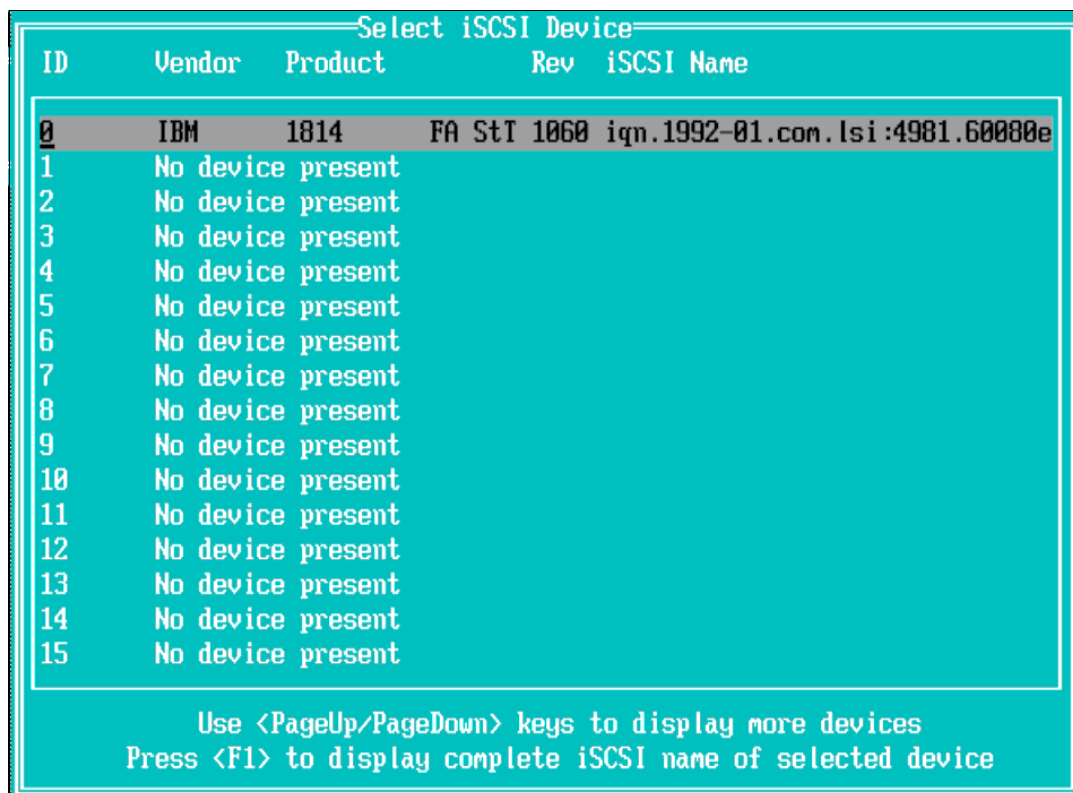
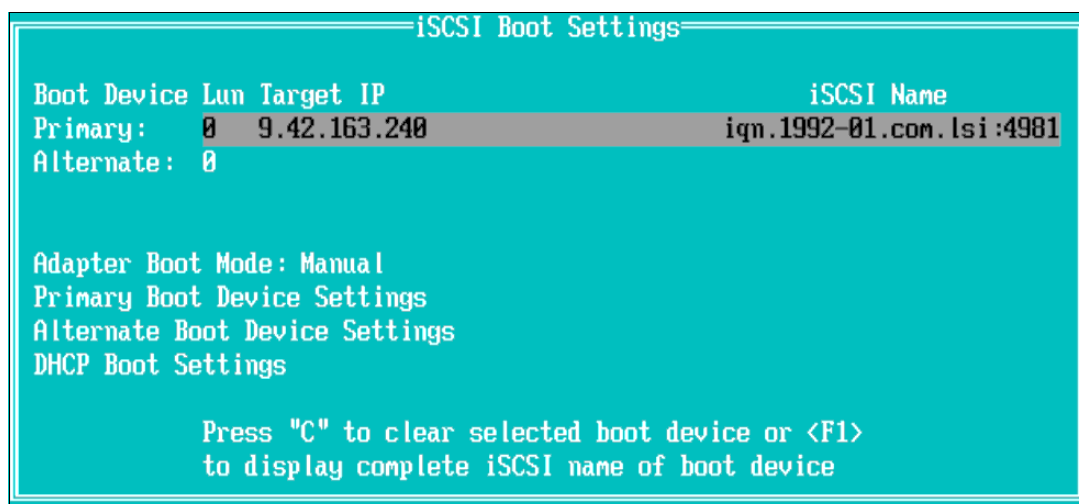

Figure 6-41 Select Boot LUN
Figure 6-42 Primary Boot device
5. Press Enter on **Primary:** to scan and select the boot LUN, as shown in Select Boot LUN (Figure 6-41). Press Enter again to add it to the definition as shown in Figure 6-42.